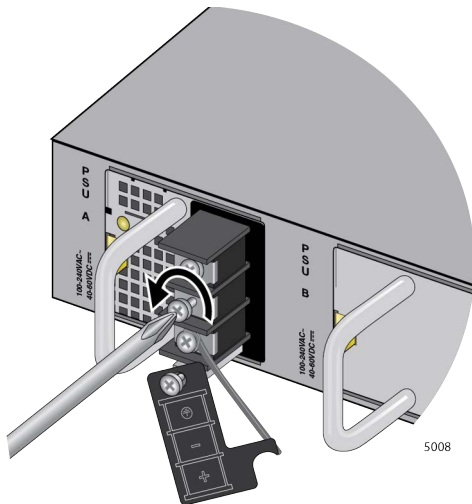

Figure 101. Loosening the Screw for the Negative (-)
3. Loosen the middle screw for the negative (-) with a Phillips-head screwdriver. Refer to Figure 101.